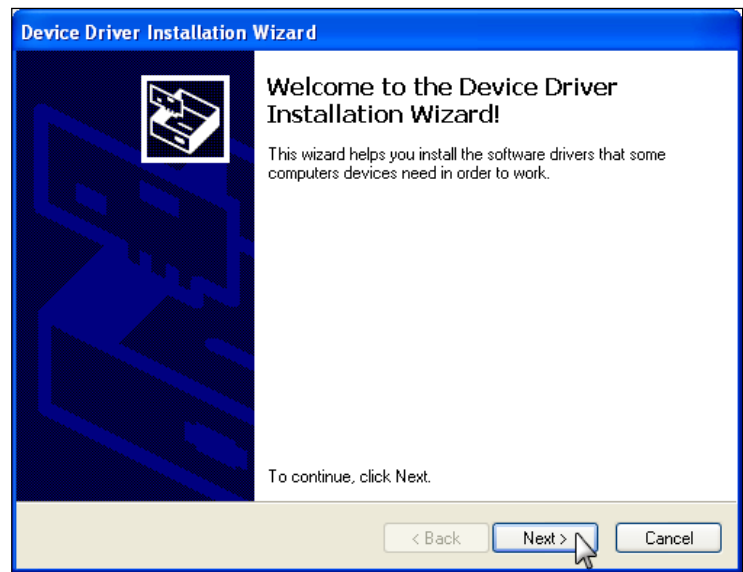

Fig. 34
6. The Device Driver Installation Wizard launches (Fig. 34). Click *Next*.